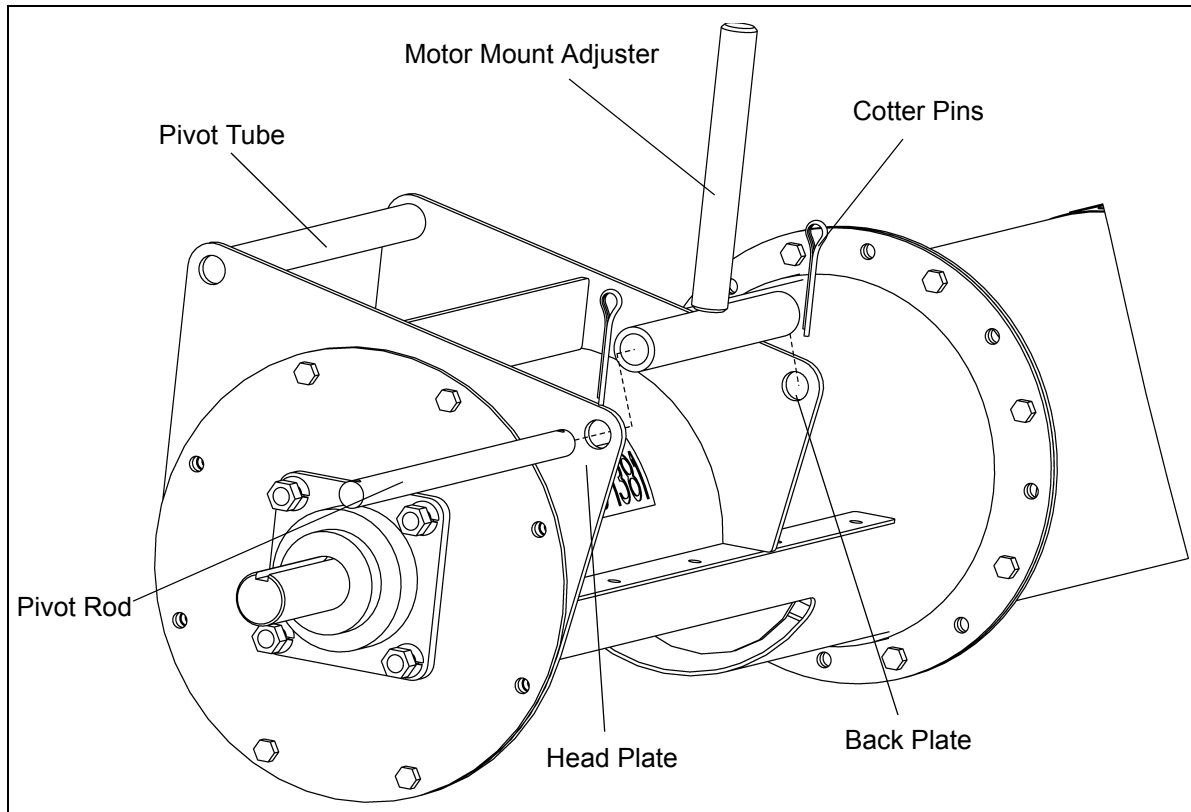

Figure 4N
2. Insert Pivot Rod through the Tube plates and Motor Mount Adjuster. Secure in place with two (2) 3/16" x 2" cotter pins (See Figure 4N).